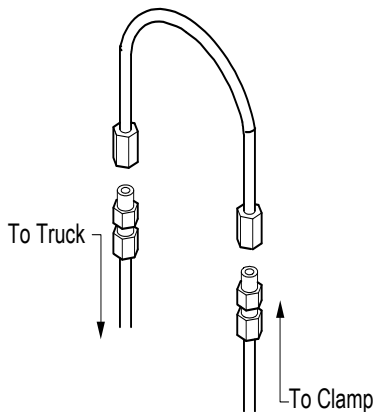

Figure 4-5, Jumper Line
2. Purging can be accomplished by installing a jumper line and operating each hydraulic function (clamp, rotate and side shift if equipped) in each direction for a minimum of 30 seconds. (Figure 4-5)